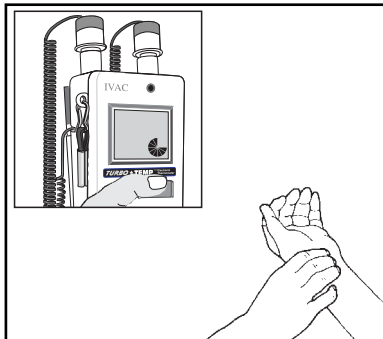

Figure 9 - Pulse Timer
1. Locate the patient's pulse (see Figure 9).